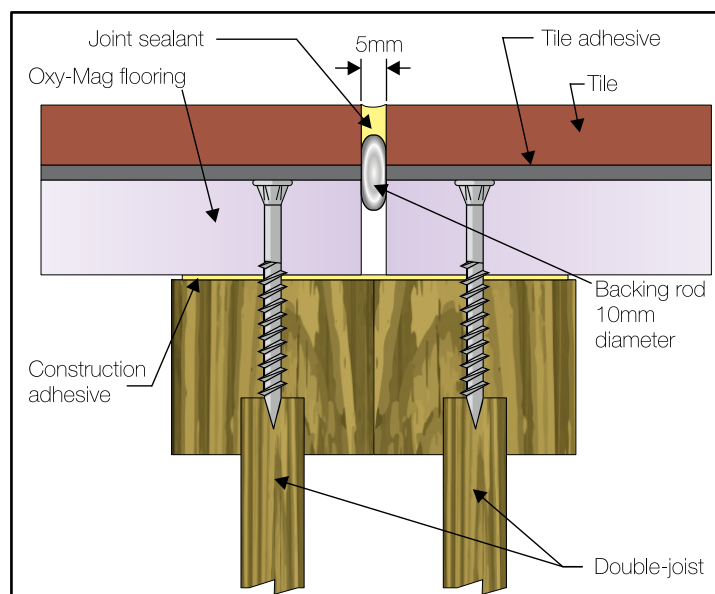

FIGURE 9 - CONTROL JOINTS: INTERNAL BOARD AND TILE JOINT
- a. Control joints in the floor boards and extending through the tiles (see Figure 9 below for an example of an internal control joint) are to be provided in the below applications as follows (unless compelled to do otherwise by the NCC/BCA and / or local regulations):